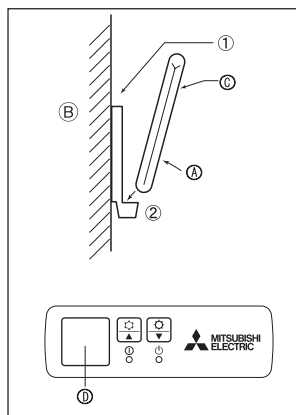

Fig. 6-5
2) Installation method (Fig. 6-5)
- ① Attach the remote controller holder to the desired location using two tapping screws.
- ② Place the lower end of the controller into the holder.